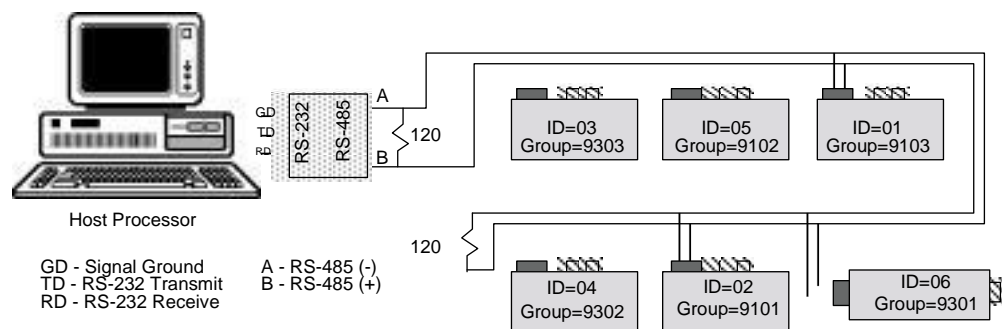

Figure 4.21—RS-485 PPT Multidrop Network
A PPT multidrop network connection of six units is shown in Figure 4.21. In this network, the device IDs are not in order from one end of the network to the other. Looking at all the units on the bus, the device IDs are sequential beginning with ID=01 and without duplication. This is an important setup condition if global commands (***99**) are desired.
Assign Group Numbers: Once the device IDs are set the group IDs can be assigned. Each unit in the same group must have a sequential sub-address - beginning with 01. The sub-address tells each unit what order it should respond in a group addressed command. To set the group (91) and sub-address (01) for device ID=02, send the following commands: ***02WE**, ***02ID=9101**, ***02WE**, ***02SP=ALL**. Now when a command is sent to group 91, device ID=02 will be the first one to reply. In Figure 4.21, there are two address groups, 91 and 93; each have 3 PPT units assigned.
When a RS-485 multidrop network has all device IDs properly assigned (Figure 4.21), then global addressed commands can seek replies from all units without conflict. The **TO=N** and **TO=P** commands instruct the units how to reply in this situation. When **TO=N** command is set, each PPT will respond in sequence beginning with ID=01, one right after another. It is important that during this response sequence the host processor, or user, not transmit on the bus until the last unit has finished its message. A carriage return (<cr>) sent during the response sequence will cause the next unit ID to send its response even though the previous unit ID is still transmitting.